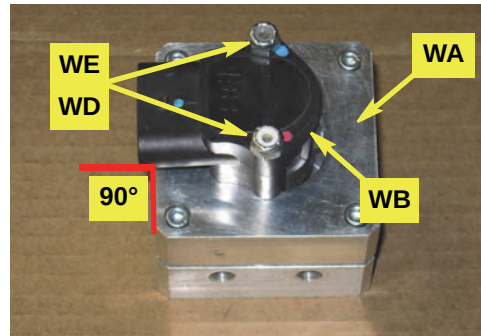

Figure 1a: Prepared WAS housing\connector
- Using the provided hardware **WE** (nuts) and **WD** (bolts - not visible), attach the WAS wire connector **WB** to the WAS housing **WA**. Install the bolts up through the bottom of the housing. The WAS wire connector **WB** can be mounted 90° to any of the WAS housing **WA** sides (Figure 1a).
- a. If installed, remove the black mounting box to the right of the driver's seat (Figure 1a, left inset) and its four studs (Figure 1a, right inset - but see Note following).
You can install the ECU mounting bracket after removing only the right front stud (circled in Figure 1a right inset) in the previous step.
- b. Facing the one-inch tabs of bracket **EL** toward the right side of the cab, place the bracket with (Figure 1a):
Figure 1a with insets: ECU mounting bracket location prepared and bracket installed
- g. If it is not already in use, locate the cab access hole under the floor mat near the front left corner of the installed ECU and bracket (Figure 1a). Make a hole in the floor mat to pass ECU cables in/out of the cab. If the hole is already in use (as in Figure 1a's insets), pass the ECU cables through it with the existing cabling.